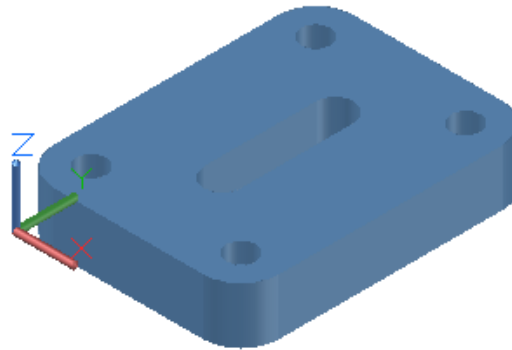

Figure Step 18
Step 18 Turn layers: Model and Construction off and change the layer of the regions to layer: Surface_1. Your completed model should appear as shown in the figure. Use the 3DORBIT command to check that the complete model is surfaced. (Figure Step 18)